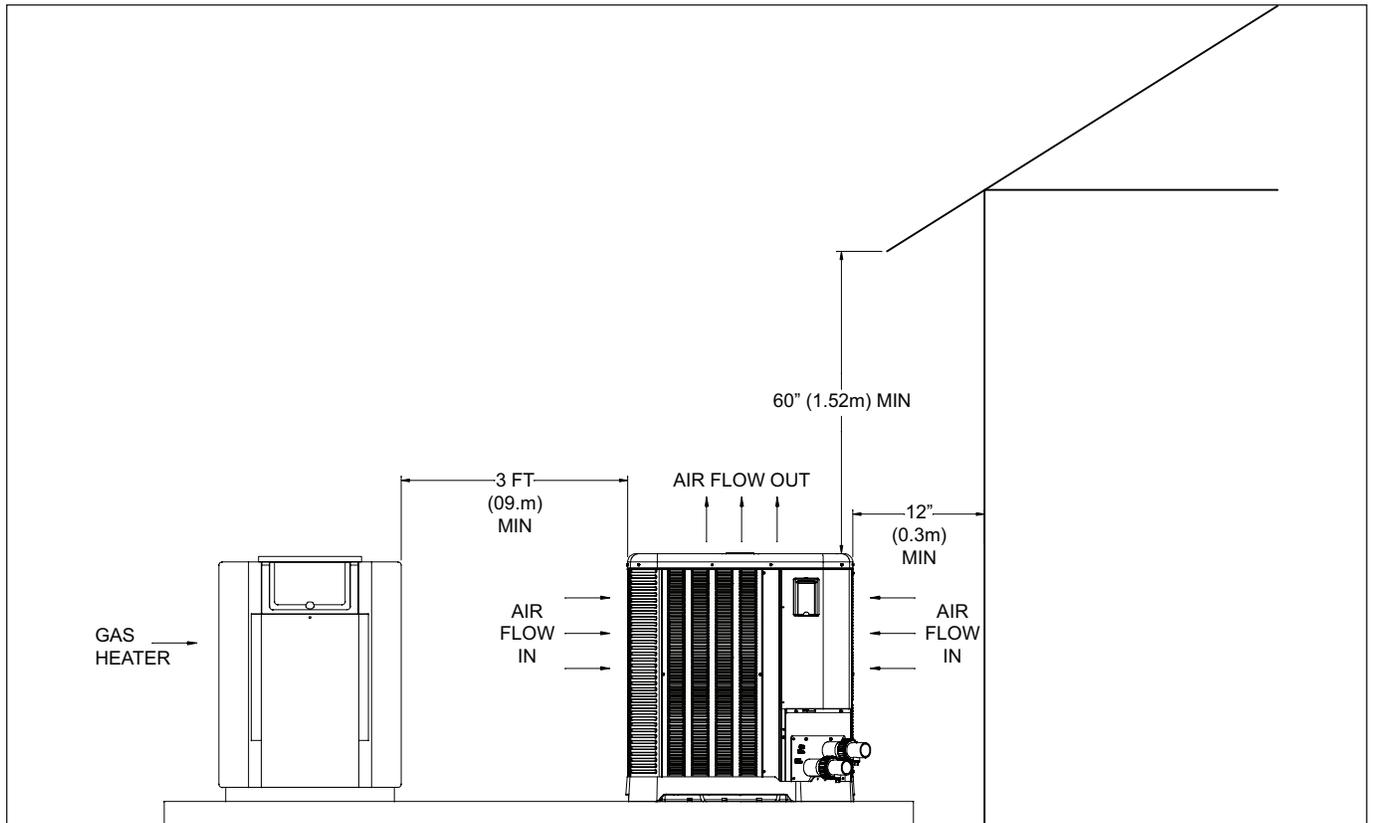

Figure 2. Installation Clearances
- This unit features an ‘up-flow’ discharge for quiet operation. Air is pulled up through the evaporator coil and discharged through the top grille. Allow at least 5 ft (1.5 m) clearance above the unit for unrestricted air discharge. Do NOT install the unit under a porch or deck. Refer to **Figure 2**. Allowing cold discharge air to recirculate back into the evaporator coil will greatly reduce the unit’s heating capacity and efficiency. To minimize water piping, locate the unit as close as possible to the existing pool pump and filter.